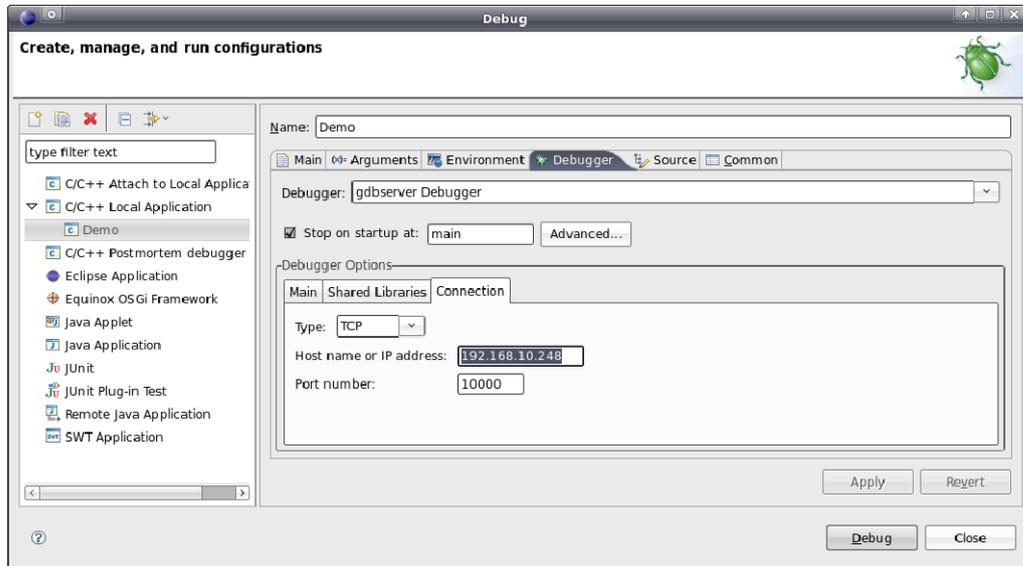

Figure 56: Configuring the connection to the Target
Use `"192.168.10.58"` as IP address of the Linux development system (compare section 6.5 for the determination of the IP address). The port number following the colon may be chosen freely (here: `"10000"`), but it must correspond with the port number of the Target connection within Eclipse as described in the following section 2.3 (also compare Figure 56).
2.3 Configuring the connection to the Target (see Figure 56)
The configuration of the connection to the Target also takes place in Tabsheet "Debugger". Hence, enter the appropriate information in section "Debugger Options" in Sub-Tabsheet "Connection" (see Figure 56). In area "Host name or IP address" the IP address of the ECUcore-5484 as defined in section 5.4 must be entered ("192.168.10.248" for the example above). Enter the Port number defined in point 1.4 in area "Port number" when command "gdbserver" is called (for this example: "10000").